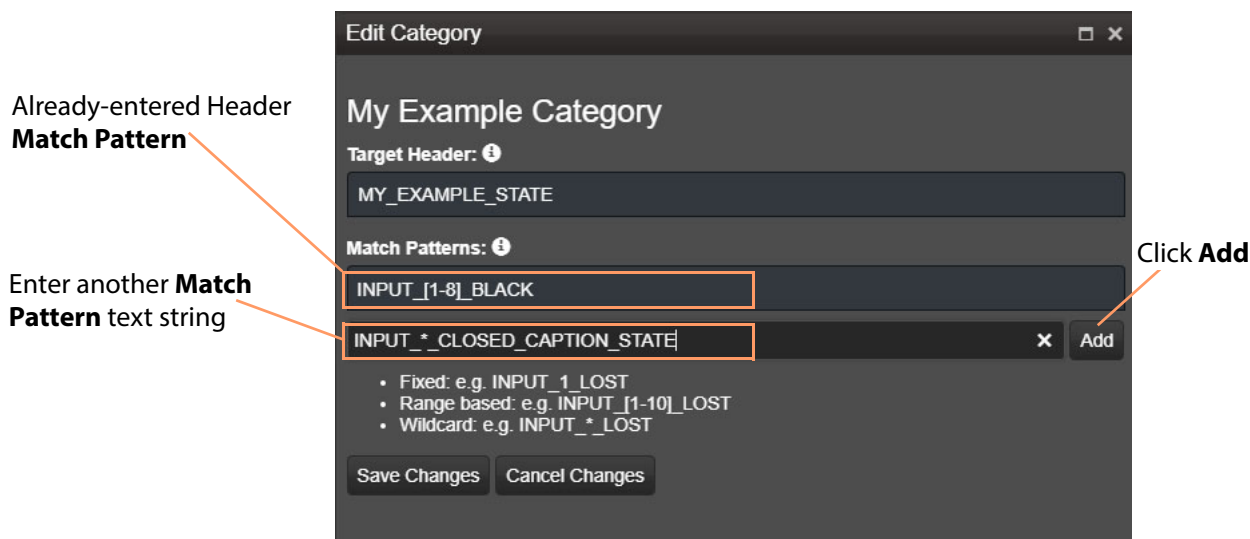

Fig. 2-12: Entering Another Header Match Pattern
- 11 Begin entering another Header **Match Pattern** text string and select the required name item in the drop-down list. See Figure 2-12.